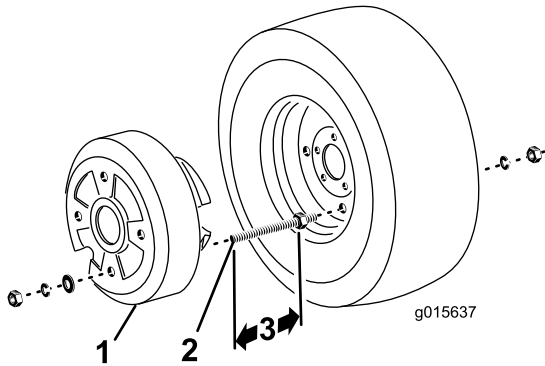

Figure 24
2. Add 3-7/8 inches to the measurement in step 1. This becomes dimension "A" in Figure 24.
4. Insert the threaded rods through 2 opposite holes in the rim and secure them in place with lockwashers (1/2 inch) and hex nuts (Figure 24).
5. Place the wheel weight over the ends of the threaded rods and secure in place with the flat washers, lock washers, and hex nuts (Figure 24).